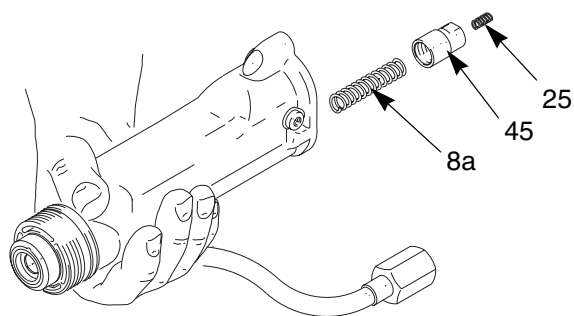
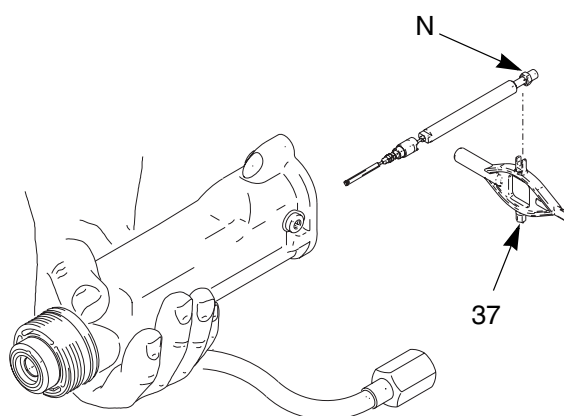

Fig. 27. Spring Cap and Springs
Fig. 28. Fluid Needle Removal
3. Remove the barrel (6), page 44.
4. Remove the spring cap (45) and the spring (8a) from the barrel. See FIG. 27..
5. Be sure the seat housing (5) is removed. Place the 2 mm ball end wrench (44) in the back of the fluid needle assembly. Push the tool in and turn it counterclockwise about 12 full turns to unthread the needle.
6. Using the multi-tool (37), pull back on the packing nut (N) to remove the fluid needle assembly. See FIG. 28..